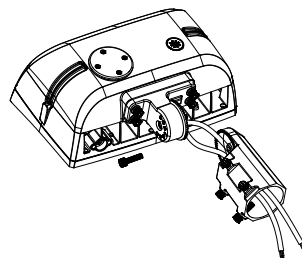

figure 2.2
- Step 3: Run the rubber wire through the other holder and tighten it with the hexagon socket screw. (Watch out not to scratch the wire). (figure 2.2)